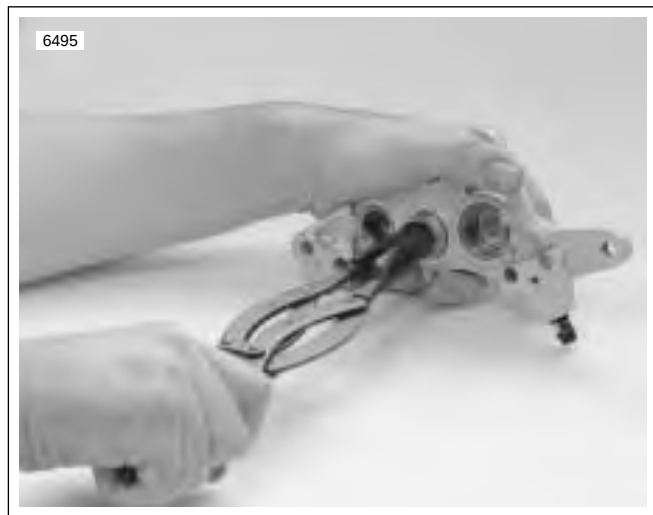

Figure 2-27. Removing Pistons
3. See Figure 2-27. Use BRAKE CALIPER PISTON REMOVER (Part No. B-42887) without adaptor to pull the six pistons from caliper bores.